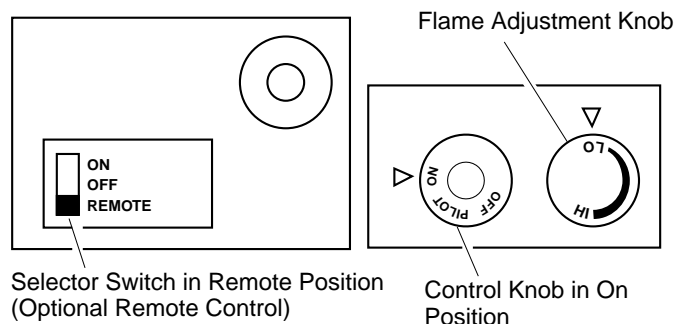

Figure 29 - Setting the Selector Switch, Control Knob, and Flame Adjustment Knob for Remote Operation
1. After lighting, let pilot flame burn for about one minute. Turn control knob to ON position. Adjust flame adjustment knob anywhere between HI and LO. Slide the selector switch to the REMOTE position (see Figure 29).